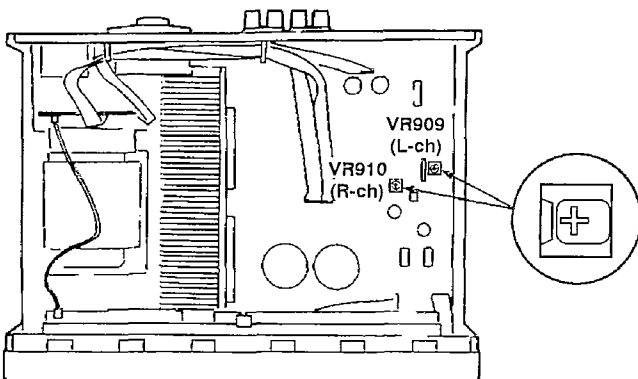

Fig. 2
2. Before turning ON the set, adjust VR909 (L-ch) and VR910 (R-ch) to mechanical center position (shown in Fig. 2).